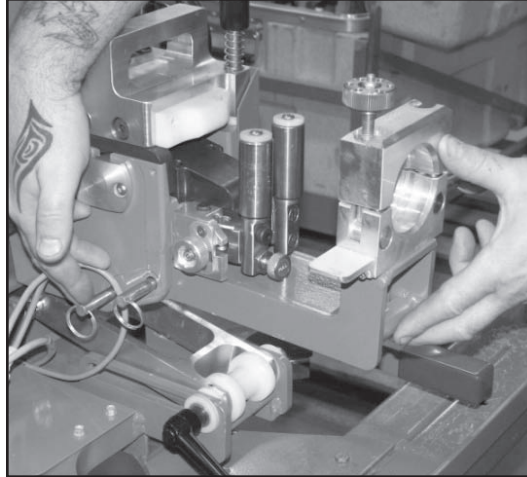

Figure 24
- A. Install Rear Guide on the back of the blower with (2) pins provided (Figure 24)